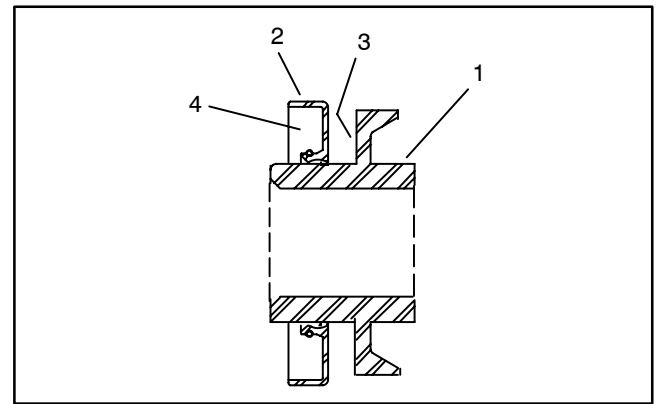

Figure 36
5. Apply a coating of grease to the nut surface to prevent seal damage during seal installation (Fig. 36).
6. Carefully install seals onto bearing lock nuts. Pack the back of the seal 75 to 90% full with #2 grease (Fig. 36).